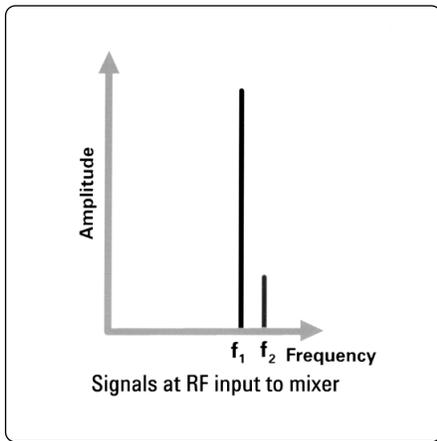
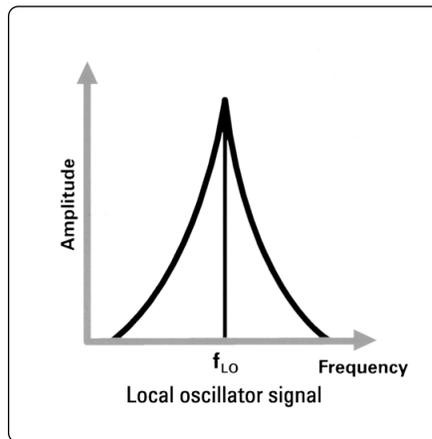

Figure 8. Two signals to be down-converted with a local oscillator
Figure 9. Local oscillator with phase noise
Spectral purity is needed on signal generators used as local oscillators. Let's look at two signals,  $f_1$  and  $f_2$ , in figure 8. These signals will be mixed with a local oscillator signal (figure 9) down to an intermediate frequency (IF) where highly selective IF filters can separate one of the signals for amplification, detection, and baseband processing. If the desired signal is the larger signal, there should be no difficulty recovering it.